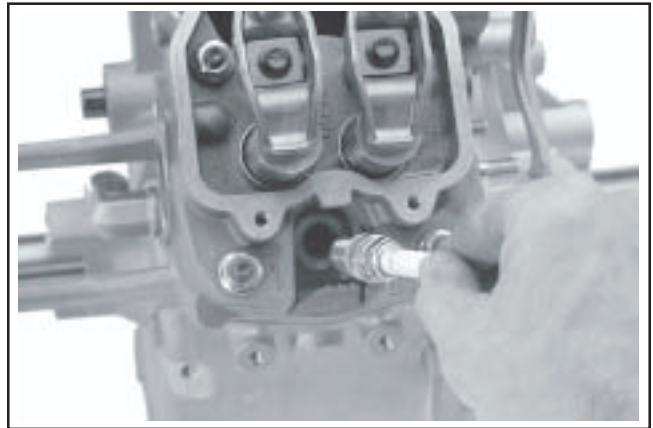

Figure 9-50. Removing Spark Plugs.
1. Remove the spark plugs from the cylinder heads using a spark plug socket. See Figure 9-50.